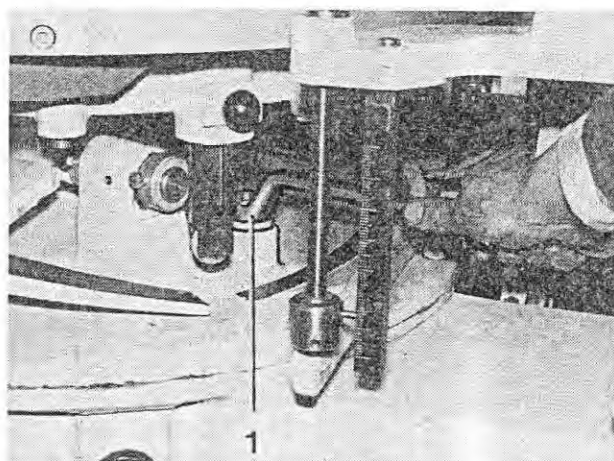
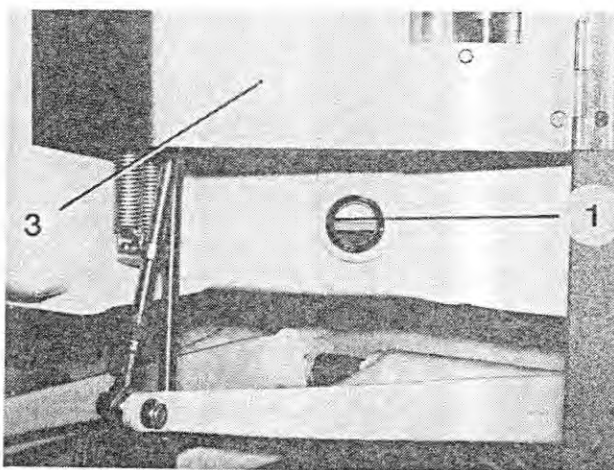

Fig. 75
Fig. 76
3. Open the door (Figure 76/3). Unscrew the oil filling plug (Figure 75/1) and fill 20 l flushing oil in the machine. (Refer to section 1.2 for lubricants.)
6. Fill oil in the machine until the oil level has reached its maximum mark (Figure 76/1). (Refer to section 1.2 for lubricants.)
7. Screw in the filling plug (Figure 75/1).